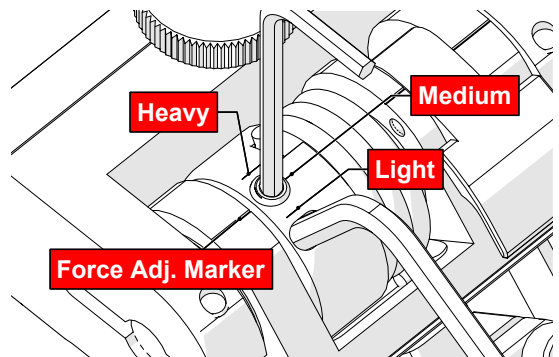

Fig. 91 - Choose desired tension
6. Gently apply pressure on the long leg of the 3 mm hex wrench until the force adjustment marker lines up with the desired spring tension. While keeping the markers in line, tighten the force adjustment screw (Fig. 91).